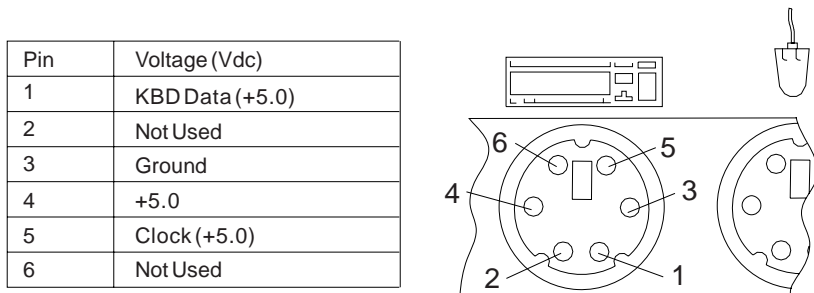

Figure 2-4. Keyboard Connector Voltage Check
- Check the voltage at the keyboard cable connector on the system board or the Media Console as shown in Figure 2-4, after the POST.